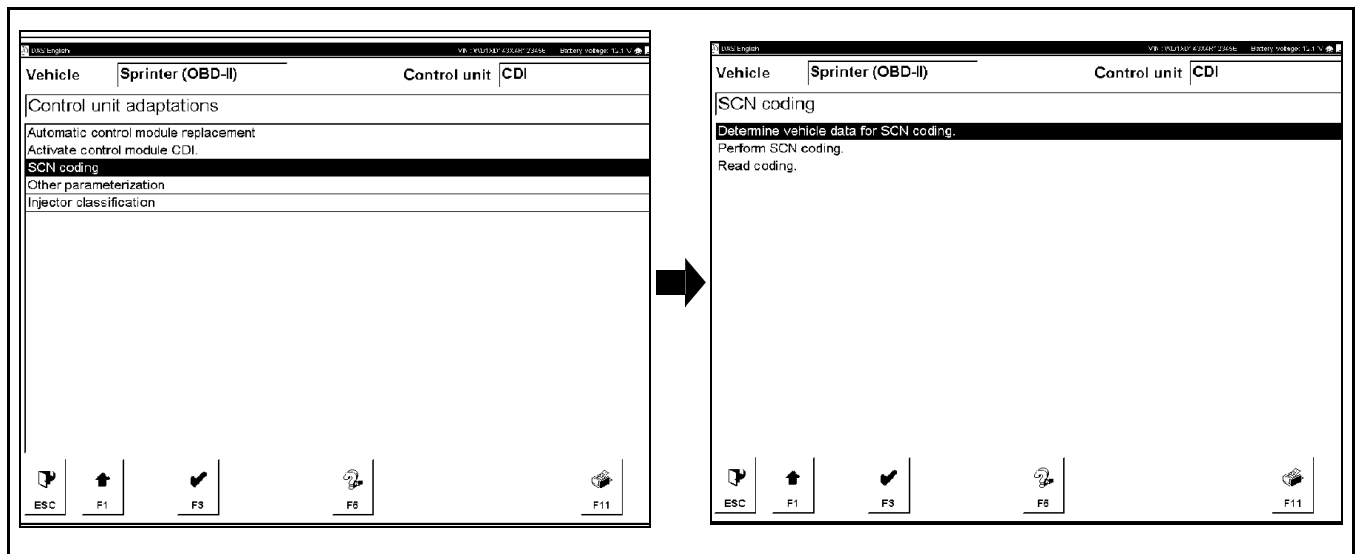

Figure 256 Control Unit Adaptations and SCN Coding Screens
2. In the Control Unit Adaptations screen select SCN Coding. In the SCN Coding screen select Determine Vehicle Data for SCN Coding (Figure 256).